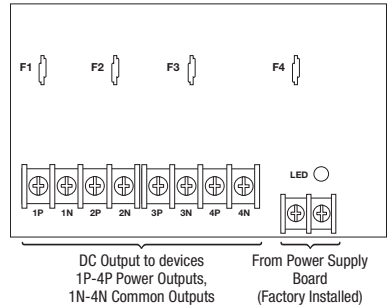

Fig. 3a - PD8UL Power Distribution Board
- b. For other Power Distribution Models: connect devices to be powered to the terminal pairs 1 to 4 marked [1P & 1N] through [4P & 4N] (*Fig. 2a & 2b, pg. 7*) or 1 to 8 marked [1P & 1N] through [8P & 8N] (*Fig. 3a & 3b, pg. 7*), carefully observing correct polarity.
6. For Access Control applications batteries are optional. When batteries are not used, a loss of AC will result in the loss of output voltage. When the use of stand-by batteries is desired, they must be lead acid or gel type. Connect one (1) 12VDC battery to the terminals marked [+ BAT -] for 12VDC operation.